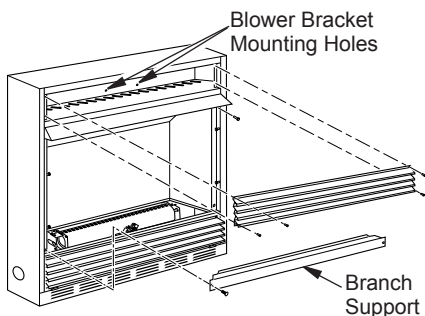

Figure 15 - Removing Top Louver and Branch Support
2. Remove 2 screws from each side of branch support and pull branch support out (see Figure 15).
3. Remove 4 screws from upper louver assembly (see Figure 15). Save these screws.
5. Open lower louver door by swinging door down (see Figure 15).
Note: When switch is in the AUTO position, the fan will start after the fireplace has run for a few moments. The fan will continue to run for several moments after the fireplace has been turned off. When switch is in the ON position, the fan will run until turned to OFF. Reinstall upper louver assembly (see Figure 15) and branch support. Close lower louver door.
6. Reinstall upper louver assembly (see Figure 15, page 14) and close lower louver.